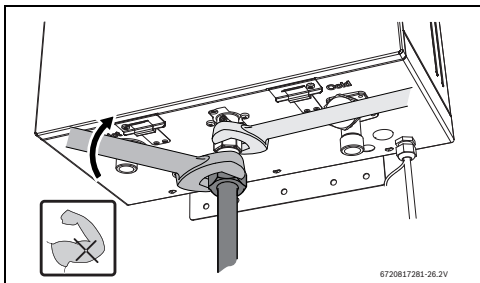

Fig. 9 Tighten gas pipe to the heater
- ▶ Tighten gas pipe with the support of a wrench, see fig. 9.